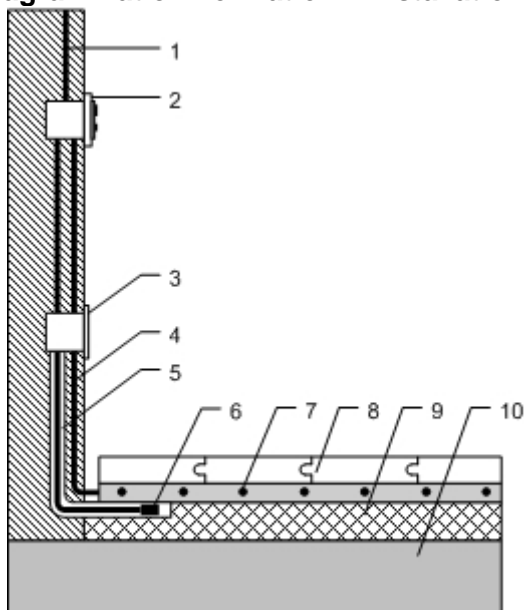

Figure 3
- Cut a recess in the rough floor surface or in the insulation board for the floor sensor. The floor sensor should be located underneath the heating element and between two heating cables and at least 10 cm away from the wall. It is recommended to insert the floor sensor in an empty pipe (see figure 3). This allows, if necessary, to replace the floor sensor, without opening the ground floor.